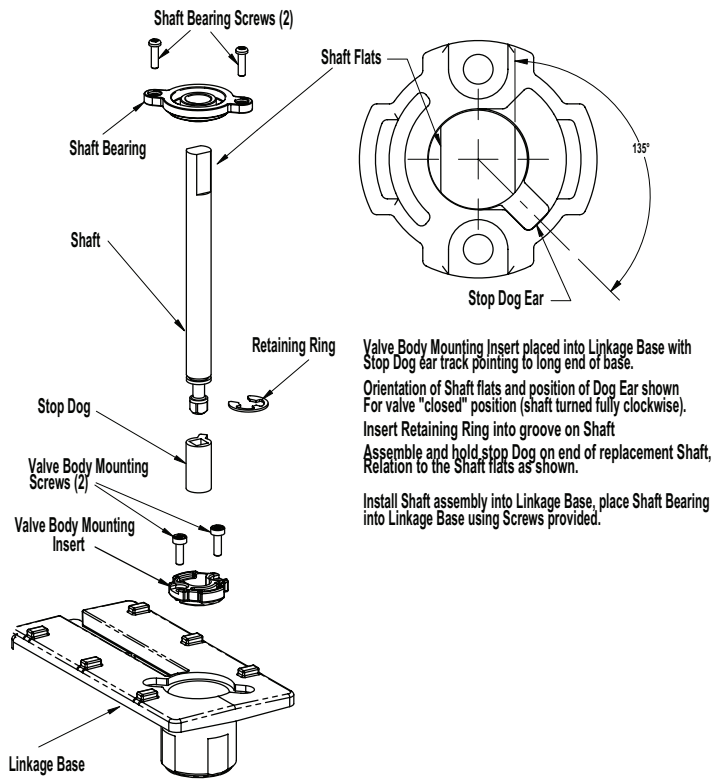

Figure-2 AV-610 Replacement Linkage
4. Install the new linkage components as shown in Figure-2. Be sure the Stop Dog ear and Shaft flats are oriented as shown and that the stop dog ear points to the long end of the base. If the Linkage Base is being replaced, make sure its long end is pointing in the same direction with respect to the valve. Check operation by rotating shaft. Once the new linkage is installed, make sure the shaft is turned to its full clockwise (CW) position.
5. Make sure the actuator is positioned at its full clockwise (CW) end of rotation (Mx40-704x may have to be powered to do this). Reinstall the actuator using the proper anti-rotation clip (refer to Figure-2).